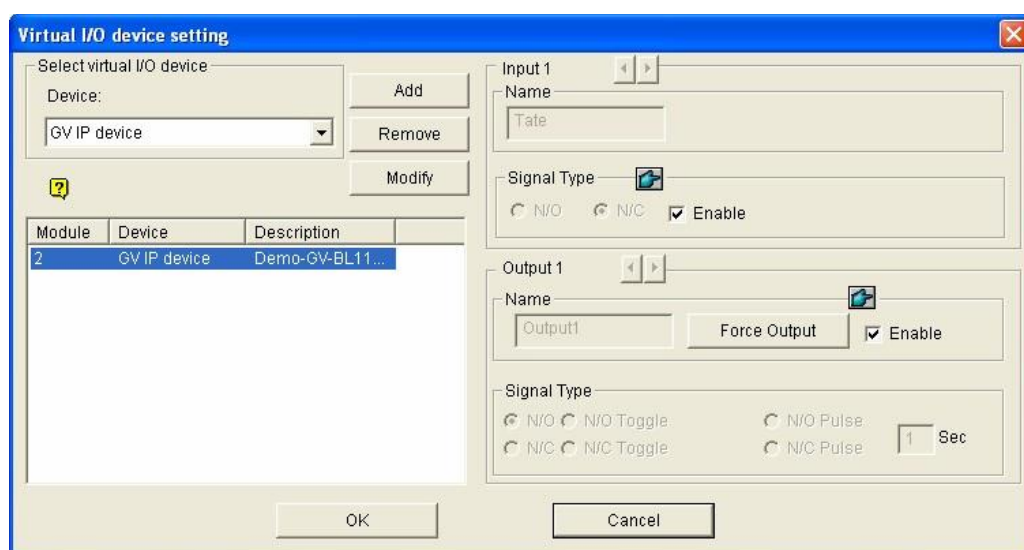

Figure 6-37
2. In the Virtual I/O Device Setting dialog box (Figure 6-37), select one device, e.g. **GV IP Device**, and click the **Add** button. This dialog box appears.